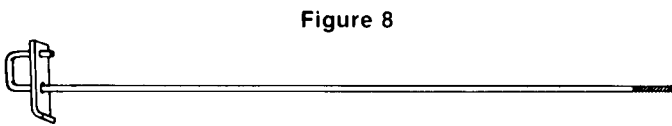

Figure 8
- A. Select the Fence Rod and Fence Bracket and assemble them together as shown in **figure 8**.